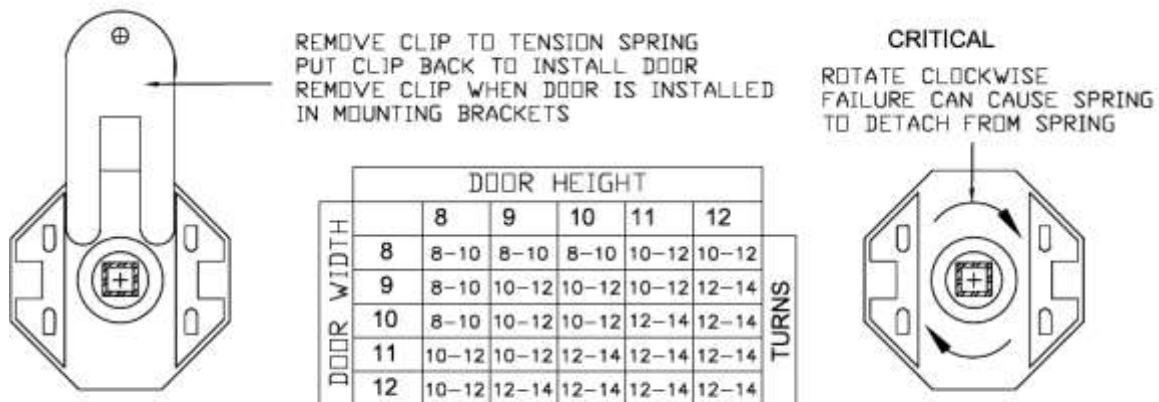

FIGURE 2
8. Slide the flat retaining plate from the end of the spring. Using a crescent wrench, wind the tab on the spring end of the roll tube as shown in (Fig 2).